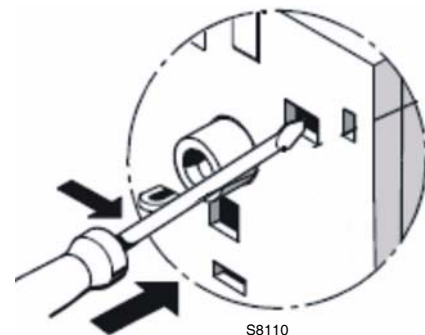

Fig. 37
- **Contact test NC (95-96) and NO (97-98)(Fig. 37)**